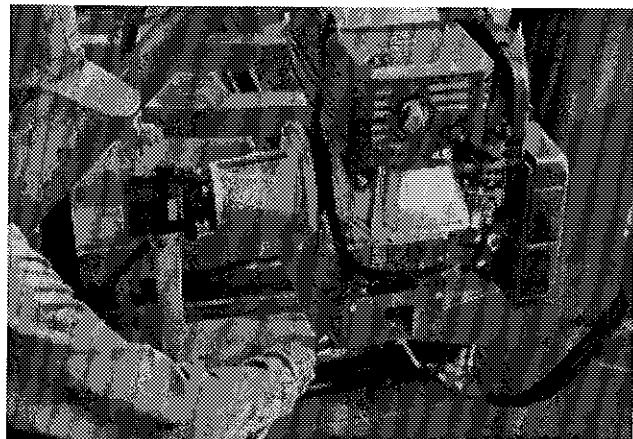

Figure 12
- 1) Please note, for shipment, the engine is temporarily mounted in the transport position in order not to exceed the legal width allowed on the road. Consequently, it must be re-positioned properly before starting. (Fig. 12)